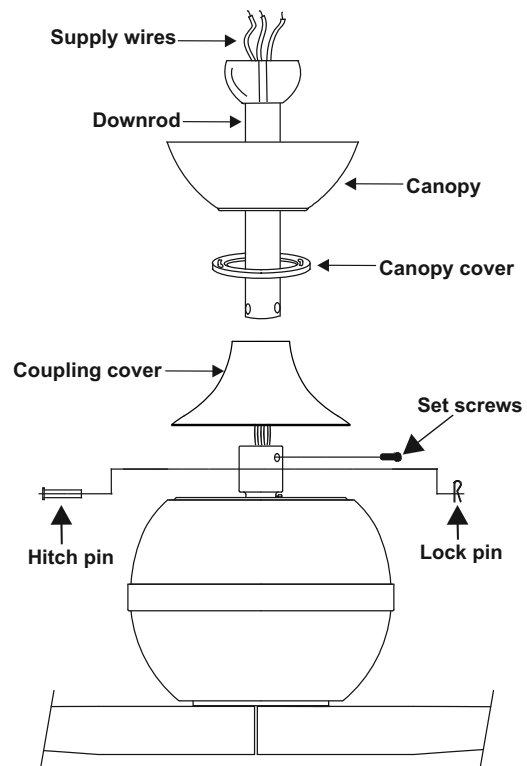

Figure 8
4. Loosen the two set screws and remove the hitch pin and lock pin from the central shaft/top coupling of the motor assembly. Doing so will allow the down rod to enter the central shaft. (Fig. 8)
5. Route wires exiting from the top of the fan motor through the coupling cover, canopy cover and canopy and then through the ball/downrod. (Fig. 8)
6. Align the holes at the bottom of the downrod with the holes in the collar on top of the motor housing. Carefully insert the hitch pin through the holes in the collar and downrod. Be careful not to jam the pin against the wiring inside the downrod. Insert the lock pin through the hole near the end of the hitch pin until it snaps into its locked position. (Fig. 8)